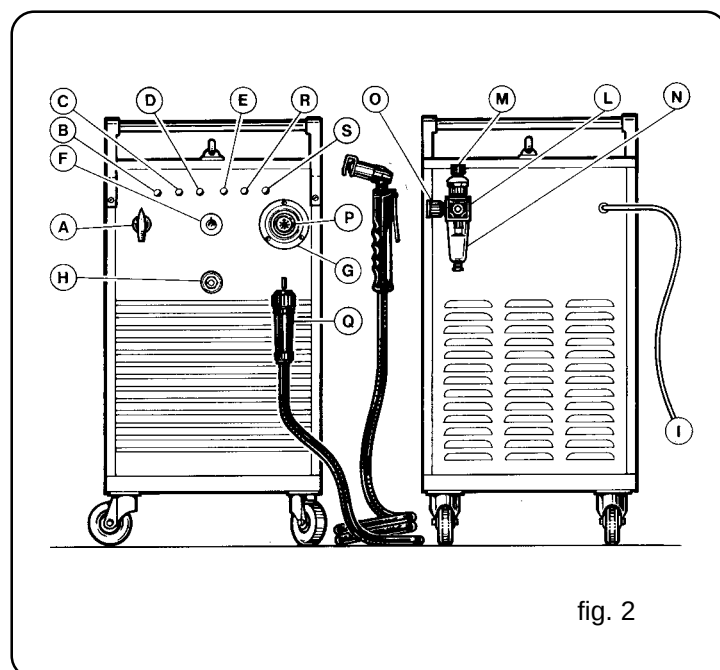

fig. 2
b) If the system is plugged into the mains, use a plug having the capacity indicated on the tag. In this case, the plug must be used to fully disconnect the machine from the mains, after first setting the switch **A** (fig. 2) to "0" (off).
To avoid overloads, a thermal safety device is located on the power transformer coils. When tripped, it lights the indicator lamp **C** (see Fig. 2).
To prevent the machine from running with insufficient air pressure, a pneumatic safety device is located on the torch feed. When tripped, it lights the indicator lamp **D** (see Fig. 2).
out to the point of needing replacement. When this occurs, it lights the indicator lamp **E**  (see fig. 2).